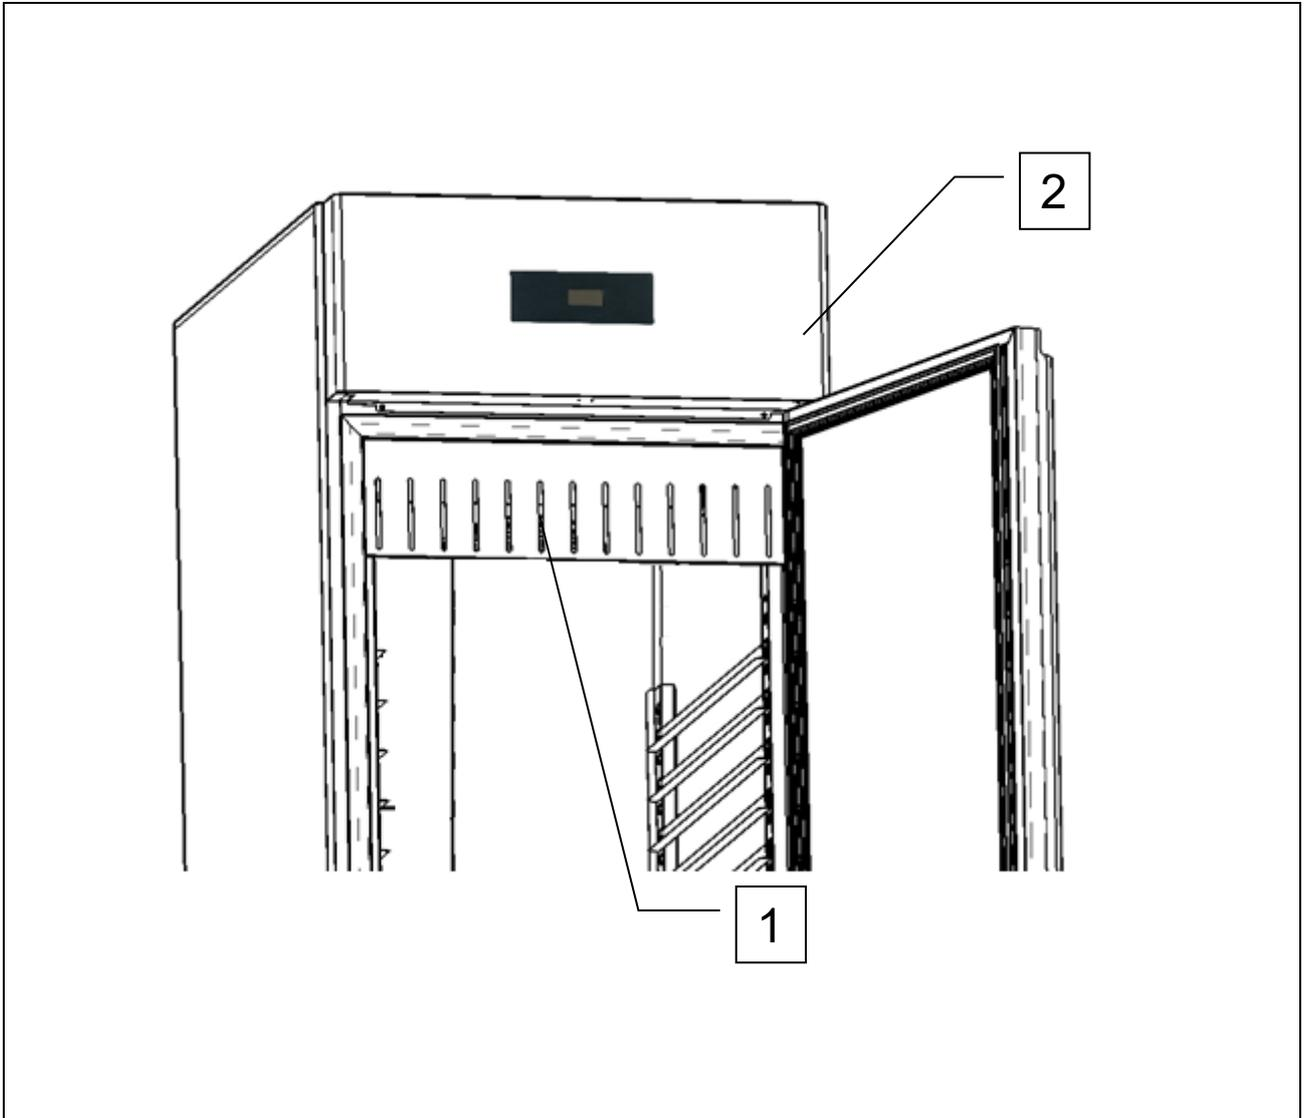

Fig. 2
- internal grille covering the evaporating unit (ref. 1, fig.2);
- front panel covering the buffer condenser fan (ref. 2, fig. 2).